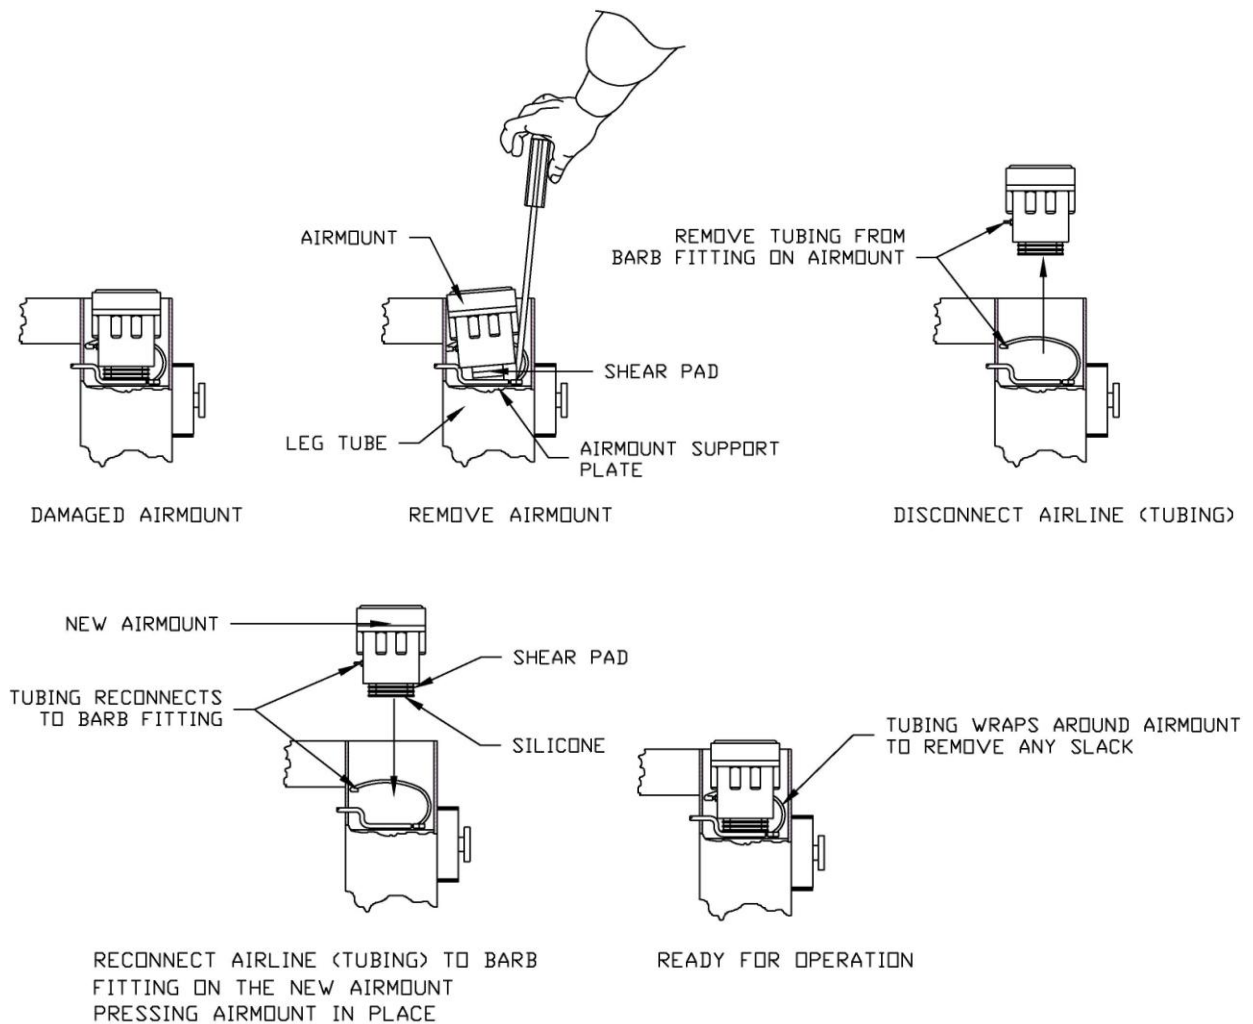

Figure 21. 9101/9102 and 9211 Replacement Airmount.
2. Remove airmount by using a long, flat head screwdriver and by gently prying from all sides of the airmount (as shown on Fig. 21.)